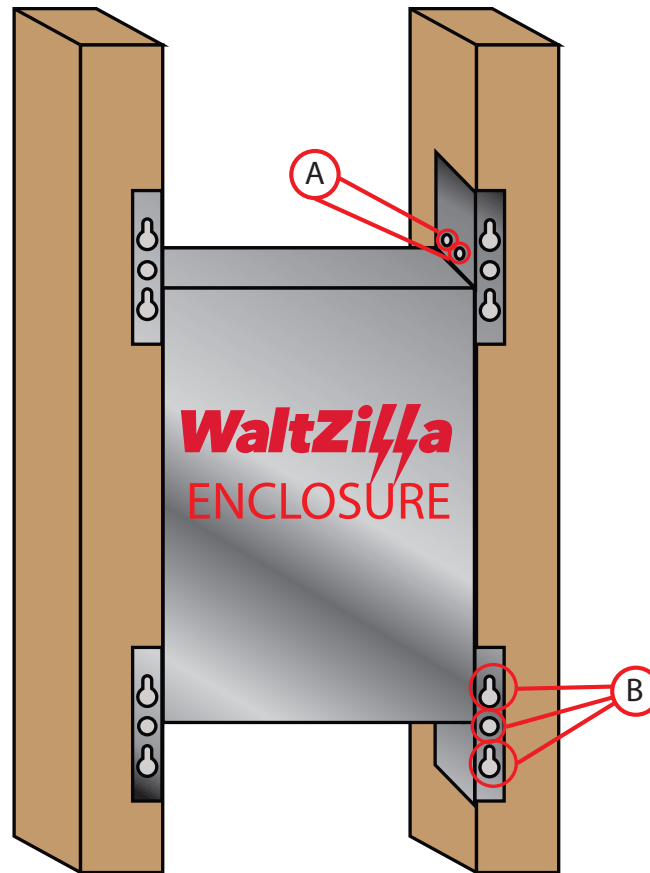

Figure 5. WaltZilla Rack Ear Screw Holes
4. On each of the four rack ears attached to the corners of WaltZilla, locate the holes that can be used to secure the enclosure to the studs (see A and B callouts in Figure 5).